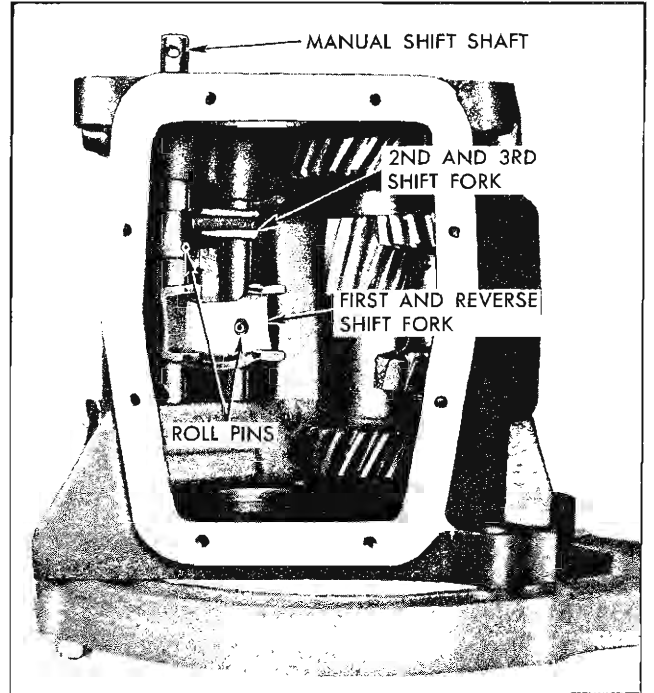

Fig. 7-22 Transmission Shift Forks
10. With suitable punch, drive out roll pin securing second and third shift fork (Fig. 7-22) to shaft. Then tap shaft toward front of case with a drift and remove fork, shaft, and roll pin.